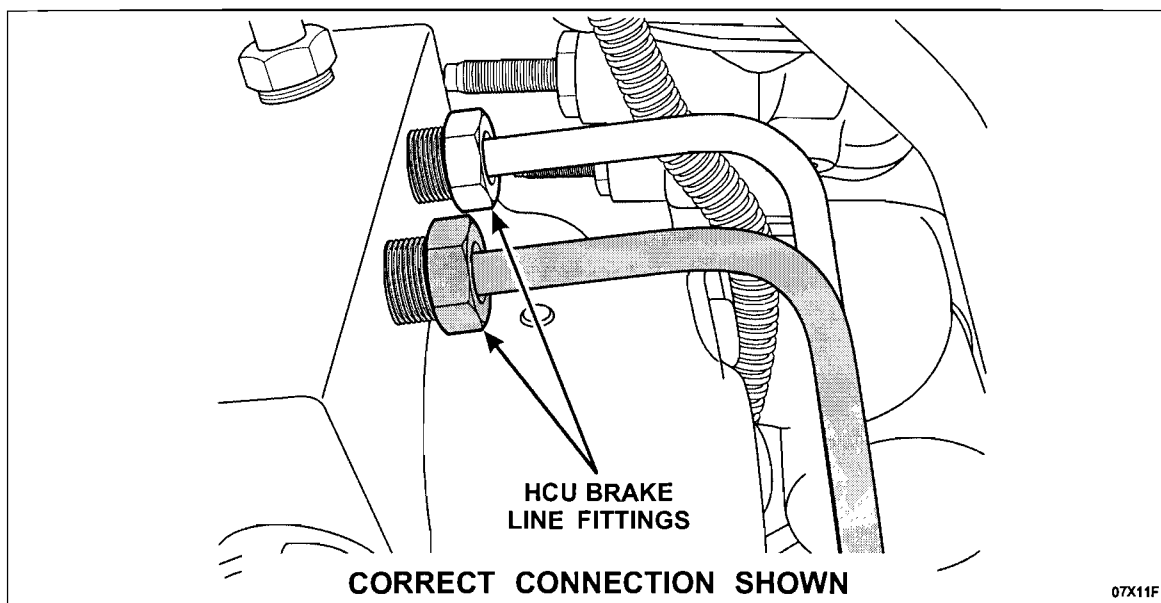

FIGURE 6
4. Position the brake lines and install to the correct port openings on the HCU. See Figure 6.